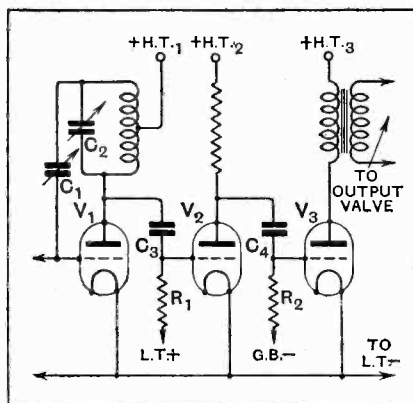

Fig. 1.—Faulty insulation in C_4 was the cause of excessive anode current in this circuit.
Referring to the system illustrated in Fig. 1 of that article, the jacks may, of course, be obtained from almost any reputable wireless dealer as they are merely ordinary filament control telephone jacks. With regard to the relay, this may be purchased from Messrs. Garnett, Whiteley and Co., Ltd., Lotus Works, Liverpool, among other firms. A suitable output transformer may be obtained from various firms, such as Messrs. Ferranti, Ltd. Referring to the alternative scheme, illustrated in Fig. 2 of that article, the special triple jack plugs may be obtained from Messrs. Igranic Co., 147, Queen Victoria Street, London, E.C.4, and are known as "Multijacks." The volume control shown in dotted lines may be obtained from various firms such as Messrs. Automobile Accessories (Bristol), Ltd., 93-95, Victoria Street, Bristol, Messrs. Marconi-Phone Co., 210-212, Tottenham Court Road, London, W.1, Messrs. Dubilier Condenser Co., Ducon Works, Victoria Road, North Acton. The Volume Control Plug may be obtained from Messrs. Rothermel Corporation of Great Britain, 24, Maddox Street, London, W.1, whilst naturally, other items such as bell wire, bell pushes, wooden casing, etc., are readily obtainable from any electricians.
H.T.+ lead to each individual valve, and note the current taken in each case. If our diagnosis is correct, you will find that valve V_3 is taking an abnormal anode current. You should also find that disconnecting H.T.+2 from the H.T. battery will result in the feed to V_3 falling to the normal value. A consideration of this effect will show that the fault lies with the coupling condenser C_4 , Fig. 1, as owing to either a breakdown of the insulation or a leak of some description the grid of the valve V_3 is receiving a positive bias. This was deduced from the information that a small spark became visible on inserting or removing the wander plug applying the grid bias to valve V_3 .